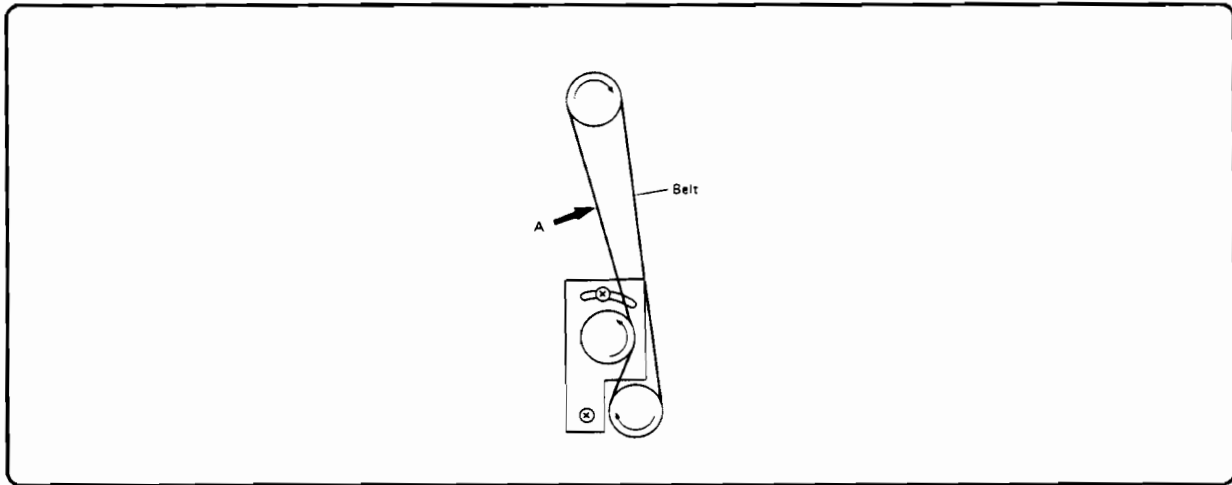

Figure 6-122. Switchback Feeder Drive Belt
Adjust the tension pulley plate so that the belt is deflected $8 \pm 2\text{mm}$ when the belt is pressed with a force of 300 grams by a compression spring scale at the point (A) shown in Figure 6-122.